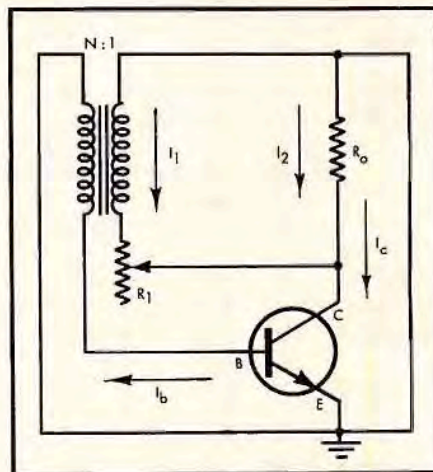
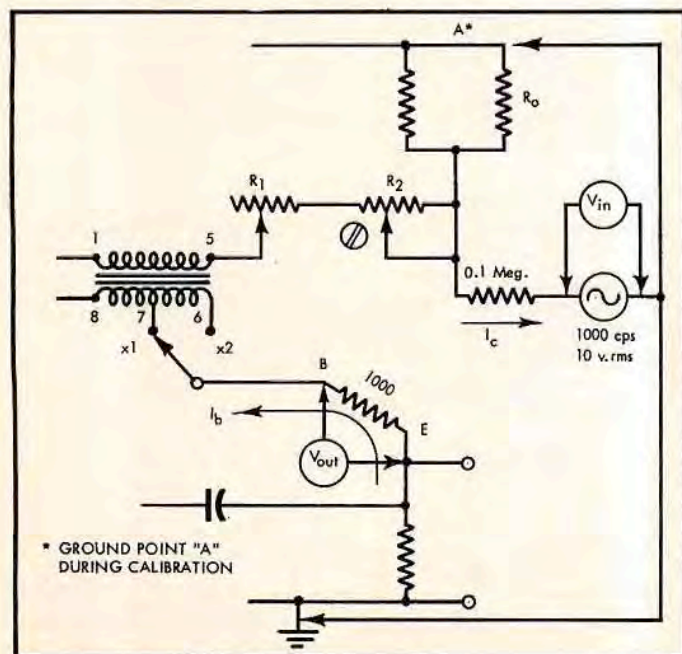

Fig. 1. Simplified schematic of basic arrangement for testing transistors.
Fig. 3. Circuit used for calibration of the transistor tester.
Basically, the circuit1 is that of an oscillator. The point at which oscillation starts is determined by the  $\beta$  of the transistor and by a potentiometer  $R_1$  in Fig. 1. The frequency of oscillation which lies in the audio range, depends mostly on the transformer characteristics.
To understand the operation of the circuit, let us examine the conditions which prevail when the circuit just begins to oscillate: (see Fig. 1)
Let us investigate the circuit further to see what other useful relationships we can determine, and how we can make a linear, direct-reading, dial scale. Suppose we make the resistor  $R_1$  a 10-turn potentiometer, and we use a 15-turn dial such as a Beckman type "RB" (or other similar device) to read out our  $\beta$  values directly. This dial has 100 major divisions per turn, and a total of 15 turns or 1500 divisions. If we determine the minimum  $\beta$  value we wish to read, we automatically set the maximum value of  $\beta$  we can read on one range. This is true since our resistor  $R_1$  in Fig. 1 goes from a minimum value of zero ohms to its maximum value when rotated the full 10-turns, and  $\beta$  varies with  $R_1$  according to Eq. (1).
To calibrate the  $\beta$  tester, an oscillator, a VTVM (such as a Ballantine Model 300) and two precision resistors are required, one of 0.1 megohms and one of 1000 ohms, as in Fig. 3. The audio oscillator is set for 1000 cps, and its output at about 10 volts. The battery leads are shorted and are the "ground point." The 0.1-meg. resistor is wired between the collector terminal and the oscillator. The 1000-ohm resistor is wired between the base and emitter terminals.  $S_3$  should be in the "X1" position.
By comparing Fig. 3 to Fig. 1 it will be noted that: